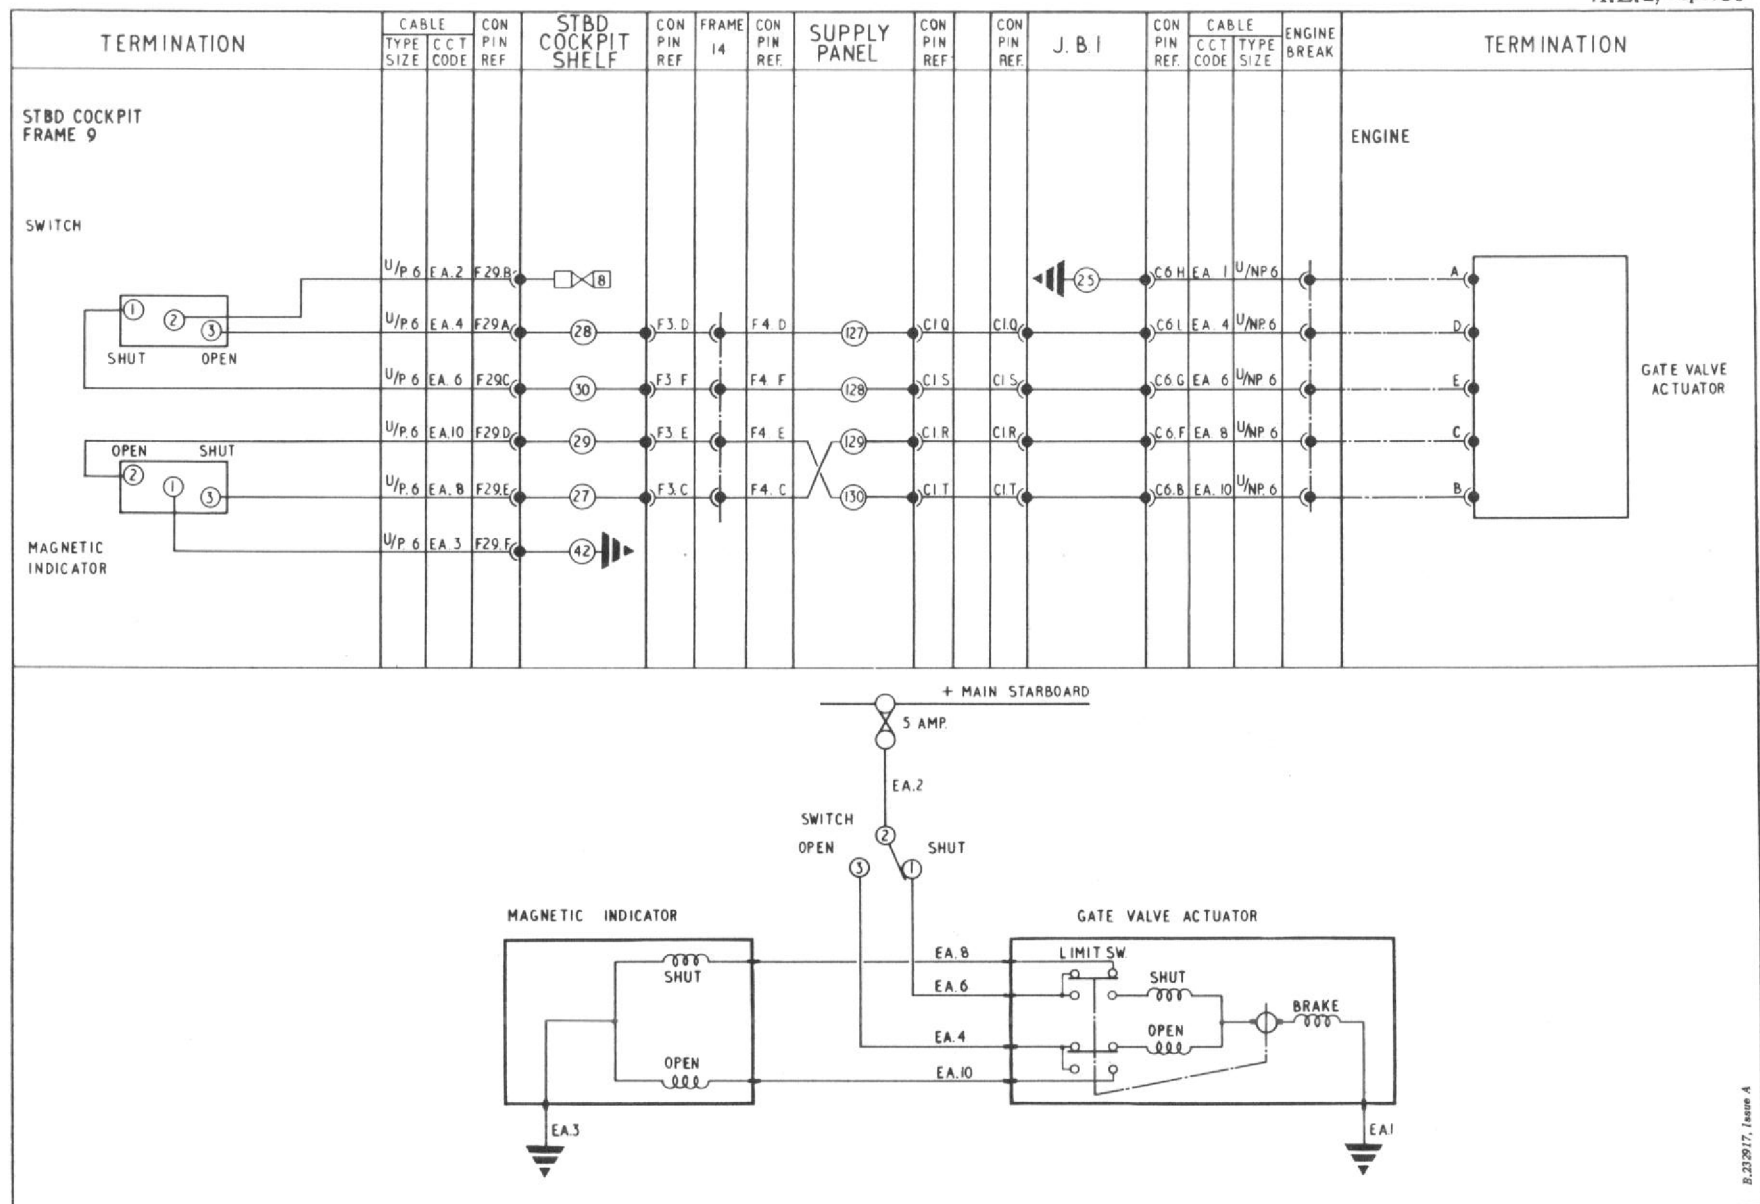

Fig. 1. Engine anti-icing (routeing and theoretical)
3. The diagram of the circuit (*fig.1*) shows conditions when the control switch is in the SHUT position. The gate valve actuator has operated to shut the valve. The actuator shut limit switch contacts have changed over to break the supply to the actuator and complete the supply to the 'shut' solenoid of the magnetic indicator to indicate valve SHUT. When the control switch is set to OPEN, both solenoids of the magnetic indicator are de-energized and current is fed from the